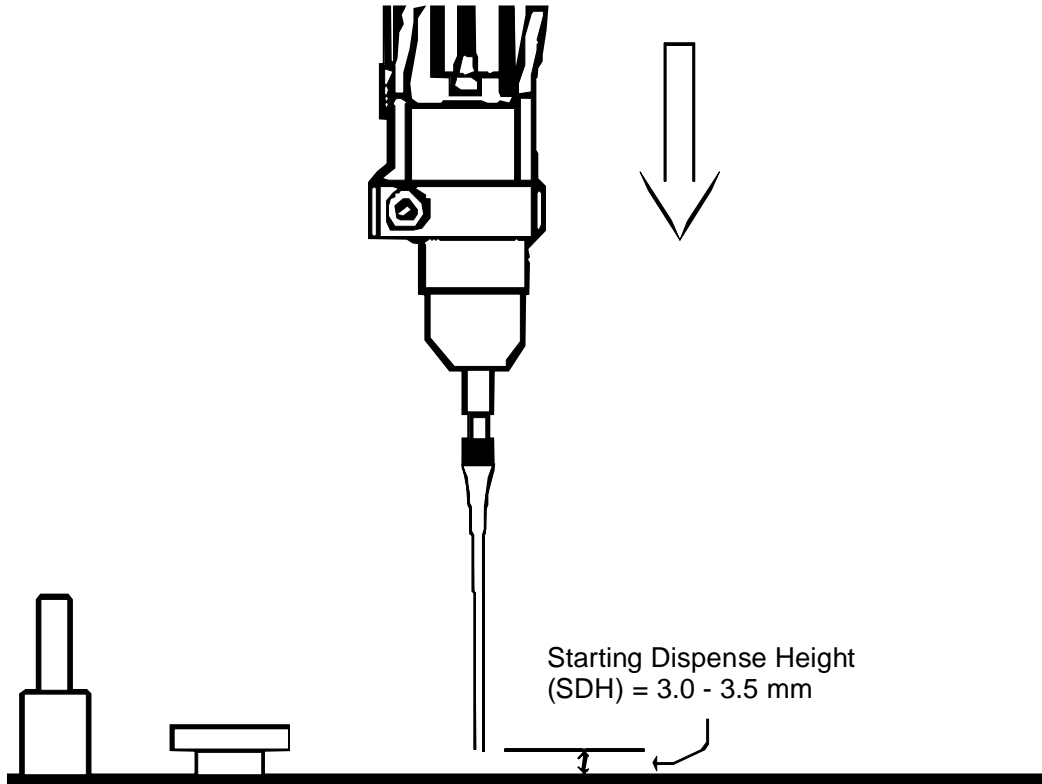

Figure 5-13. Starting Dispense Height Measurement
11. Measure the tip to platform distance with the metric gauge (Wedge Gauge) and record the measurement. Refer to Figure 5-13.